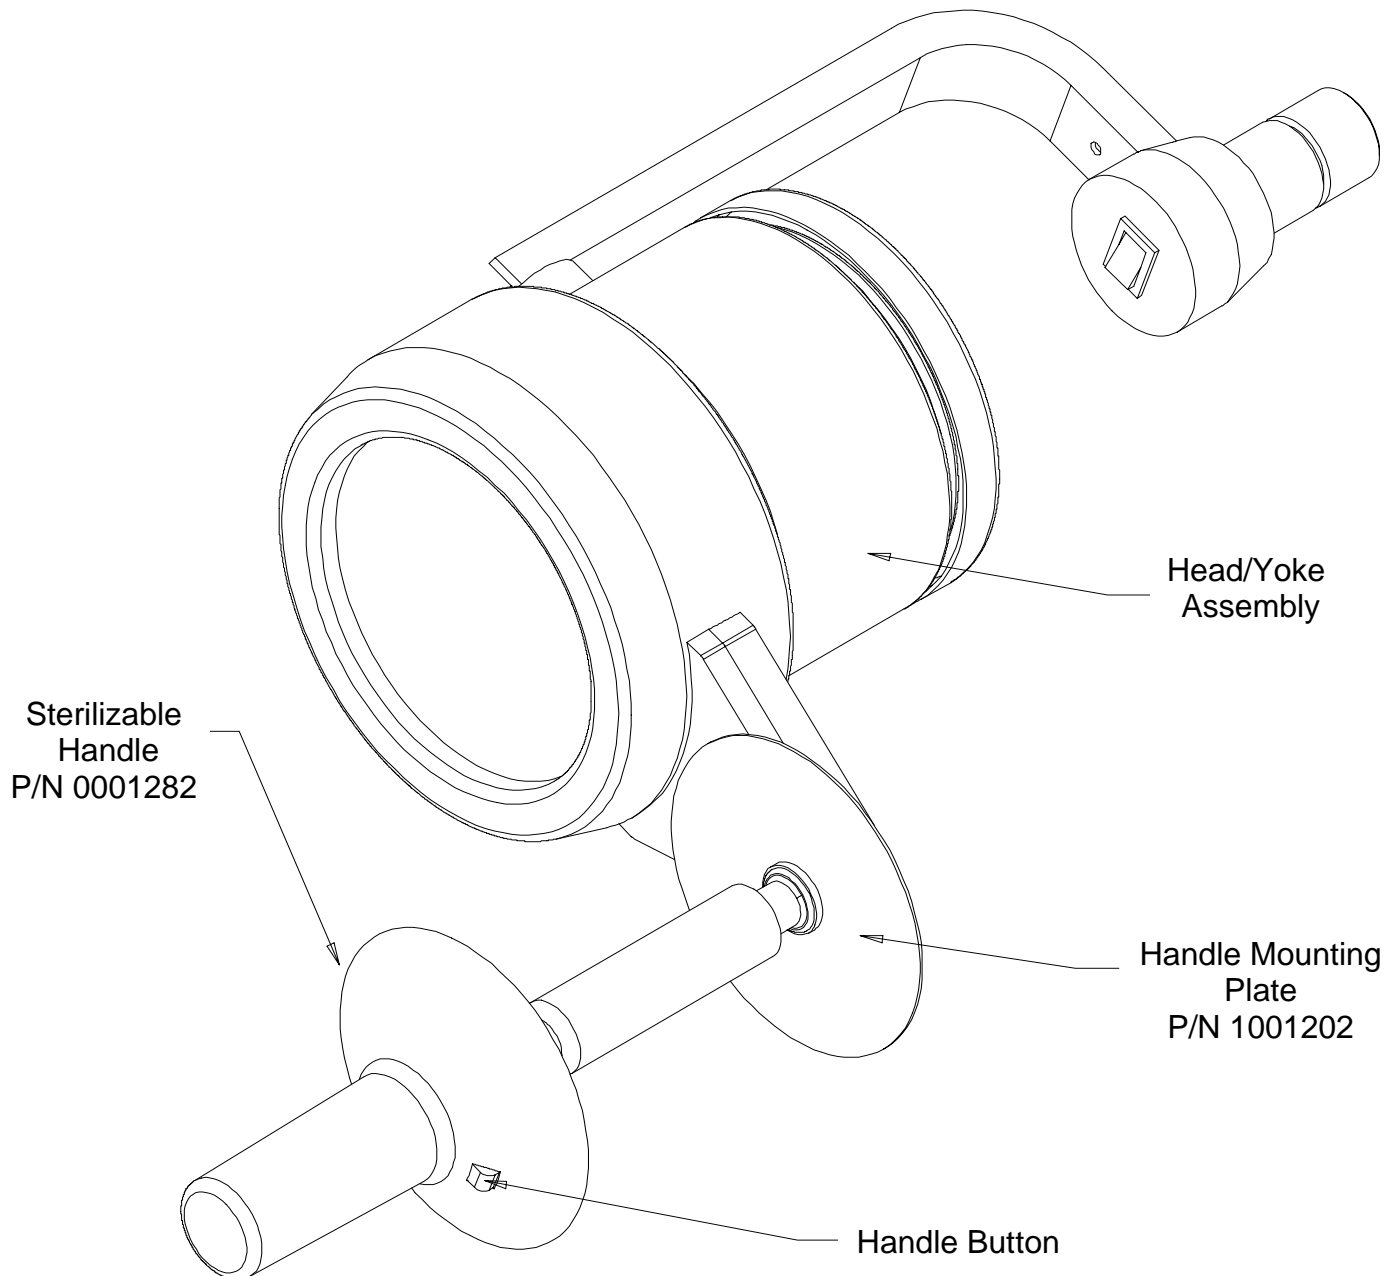

Figure 9: Handle Sterilization
- Remove sterilizable handle by pressing the button near the base of the handle and pulling the handle off the handle post (See Figure 9).